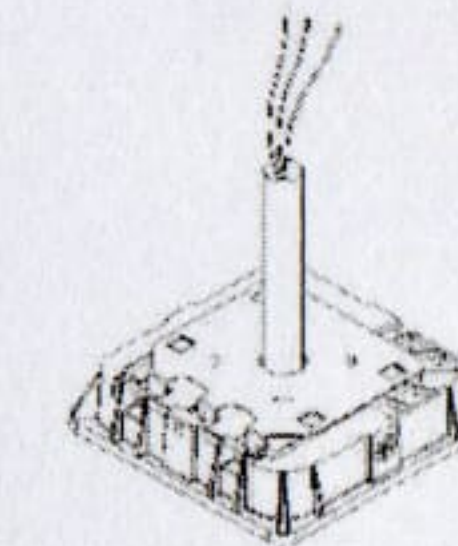

Figure 1
2. If the incoming power wires from the luminaire are longer than the pendant, make wiring connections in the junction box. If the wires are not longer than the pendant, pull wires from the junction box as required, and make wiring connections inside the pendant (see Figure 1).